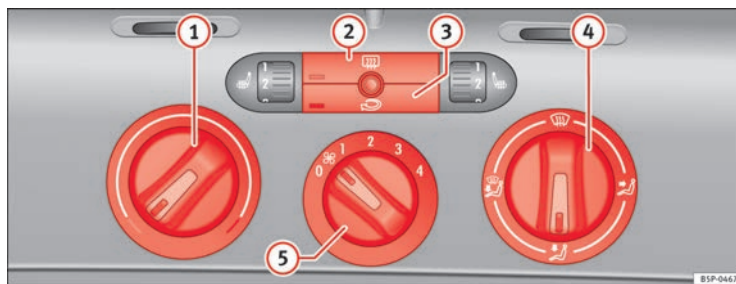

Fig. 129 Heating controls on the dash panel
- Use the knobs ⇒ Fig. 129 ① and ④ and control ⑤ to set the temperature, air distribution and blower speed.
- To switch a function on or off, press the appropriate button ② or ③. When the function is activated, the display window in the lower left of the button is lit.